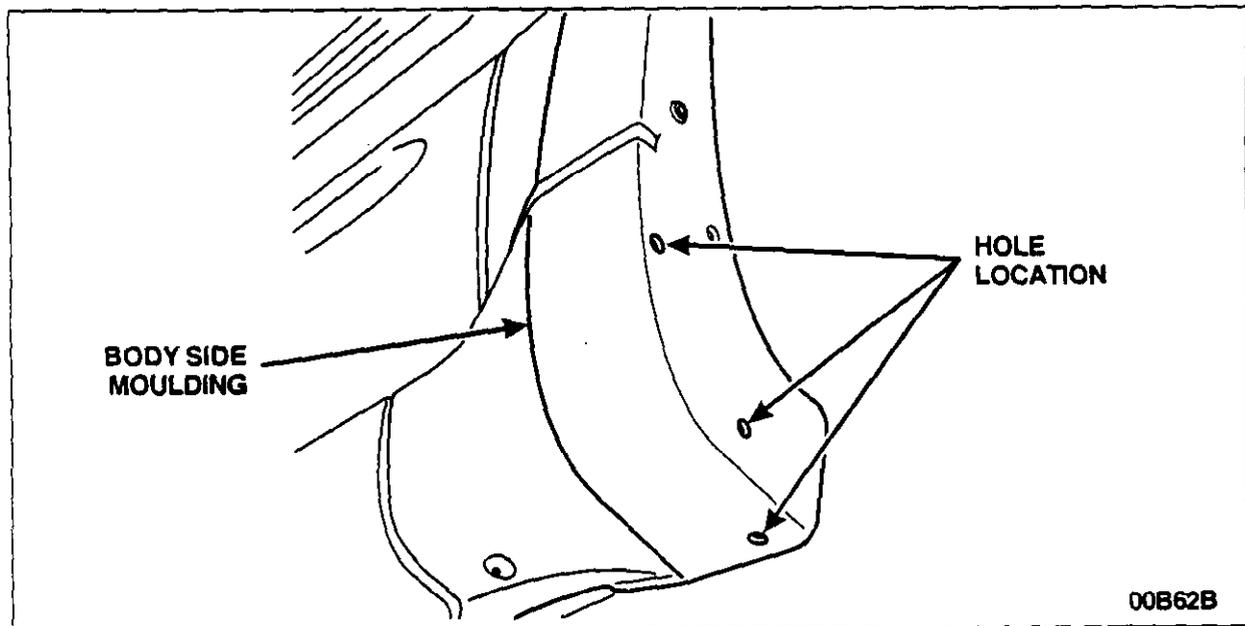

FIGURE 2
4. Drill 6.530 mm (1/4 in) holes in the marked locations. See Figure 2.